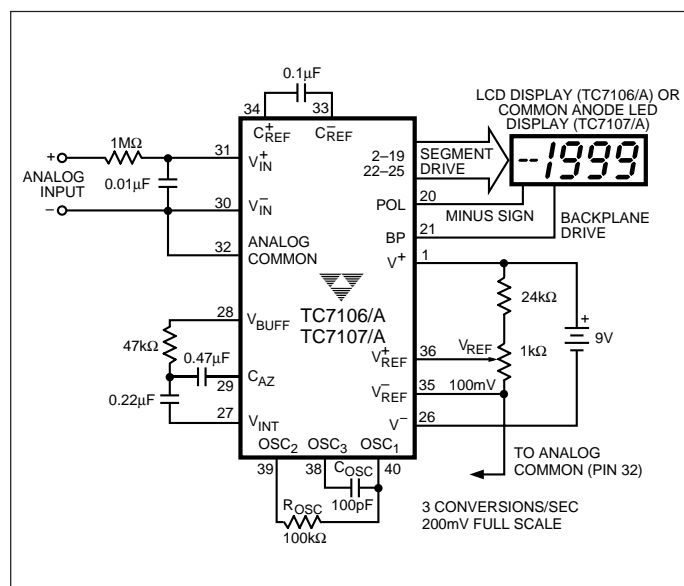

Figure 1. TC7106A/7A Typical Operating Circuit
3. Unless otherwise noted, specifications apply to both the TC7106/A and TC7107/A at TA = 25°C, fCLOCK = 48 kHz. Parts are tested in the circuit of Figure 1.